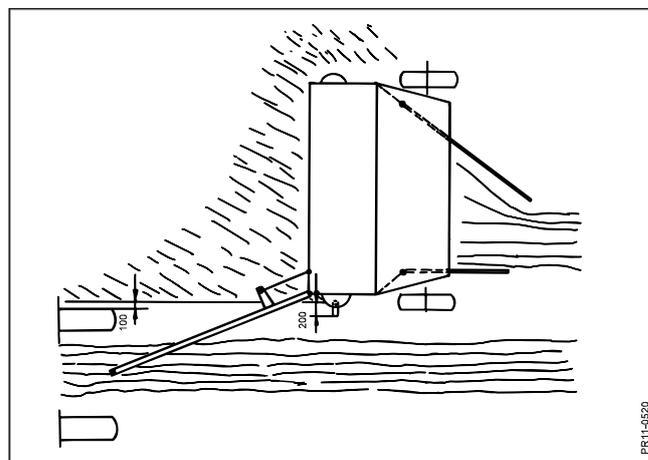

Fig. 3-37
**Fig. 3-37** made during 3 drivings: